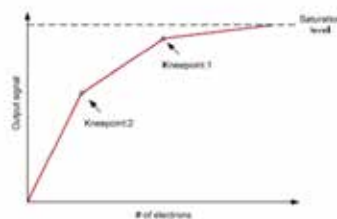

Figure 7: Piece-wise linear forming of the sensor response curve achieves a higher dynamic range
- by using a piece-wise linear response (PLR), which delivers a more logarithmic ramping of the sensor's response curve (Figure 7).